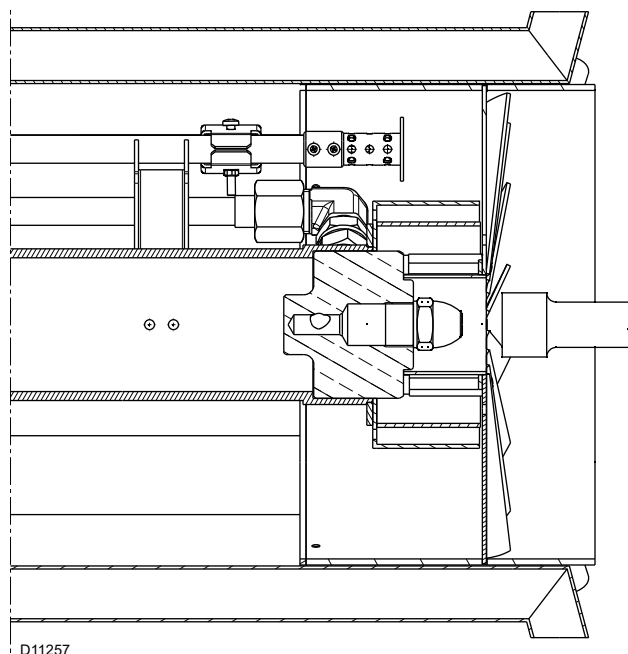

Fig. 17
- Fit the nozzle with the box spanner, fitting the spanner through the central hole in the flame stability disk (Fig. 17).